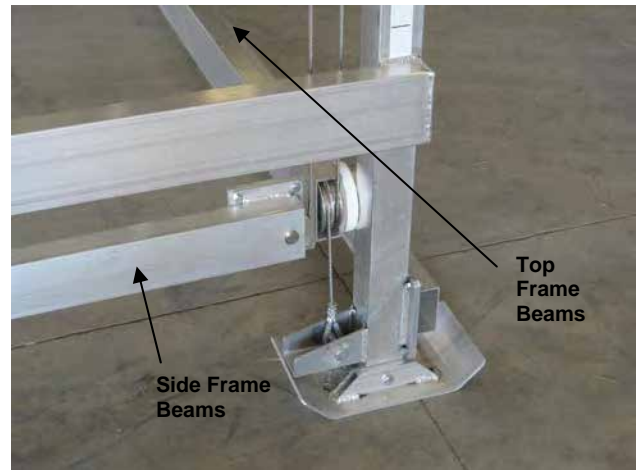
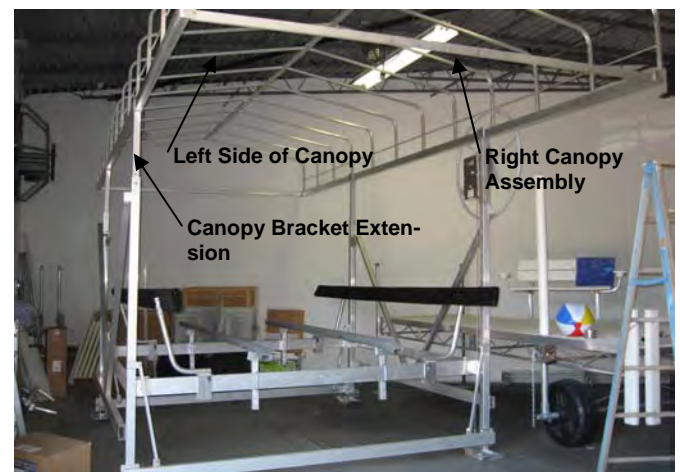

FIG. 24
FIG. 32
Adjust cable ends so side frame beams are parallel to top frame beams. See Fig 24 & 25. This is accomplished by tightening the eye bolt nuts. See Fig 25.
3. Mount the 4 ea. canopy bracket extensions onto the lift legs. See FIG. 24 & 25. Use the 1/2" x 3 1/2" long bolts and 1/2" nuts provided. See FIGS. 32.
4. Lift the canopy into place and connect the lift leg extensions. Use the 1/4" x 4" long bolts and 1/4" nuts provided. See FIGS. 32.